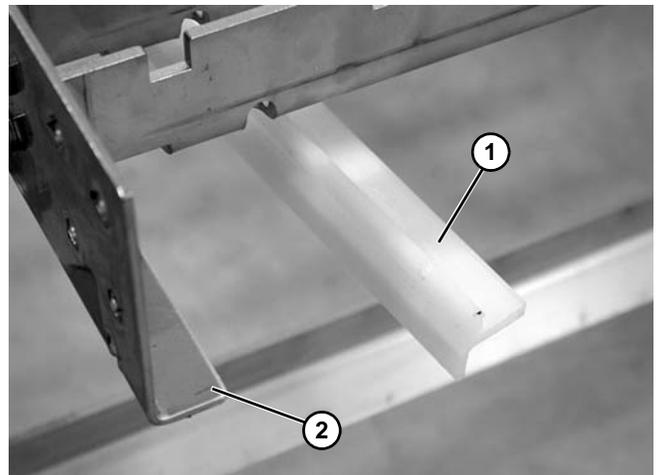

Figure 44
2. Remove the bottom wear strip (**Figure 44, item 1**) from the frame rail (**Figure 44, item 2**).